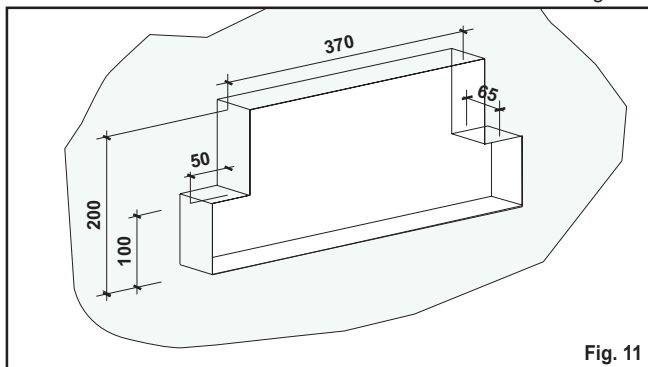

Fig. 11
- 1) Identify the position on the wall where the fan coil is to be installed and create a niche with the dimensions shown in fig. 11.